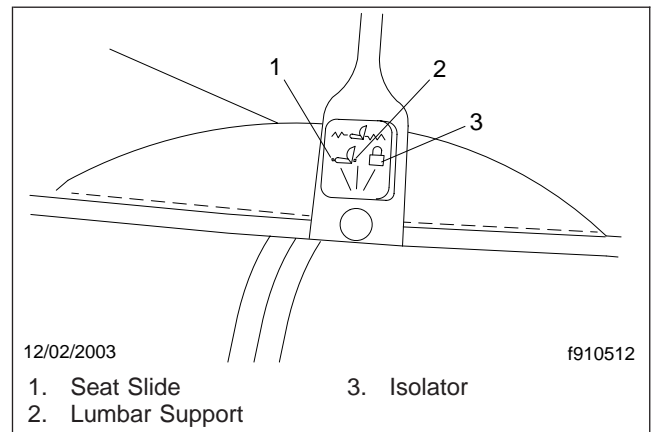

Fig. 3.4, Seat Slide and Isolator Lever
1. **Seat Slide (fore-and-aft):** When this adjustment is made, the entire seat moves forward or backward on its track. See Fig. 3.4 for a description of the seat slide and isolator lever.
2. **Isolator:** This feature (also referred to as backslap isolator or Chugger-Snubber[®]) reduces the amount of road shock by isolating the occupant from the motion of the vehicle, and allowing the upper seat to move in a simple pendulum motion. Whenever the isolator is not desired, it can be locked out. See Fig. 3.4.